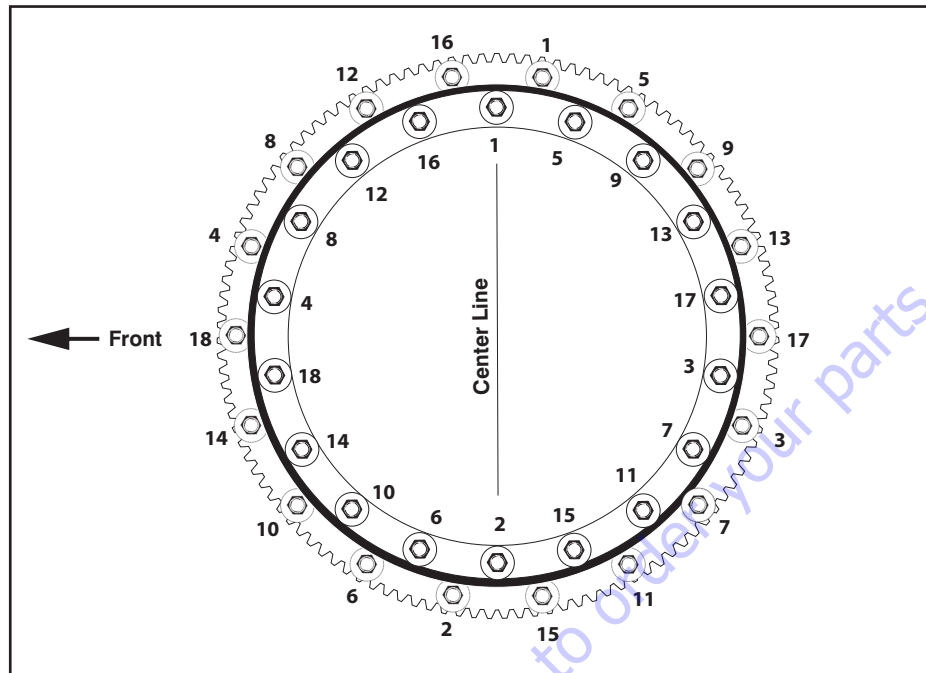

Figure 3-59. Swin
3. See Figure 3-59. Swing Bearing Torque Sequence.